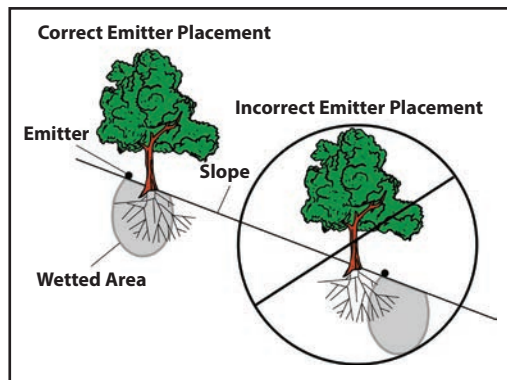

Figure 3.3 Slope Installation
- Install distribution tubing perpendicular to the slope and place emitters above plants. In this manner, the wetting pattern remains within the root zone and erosion is minimized. See *Figure 3.3*.